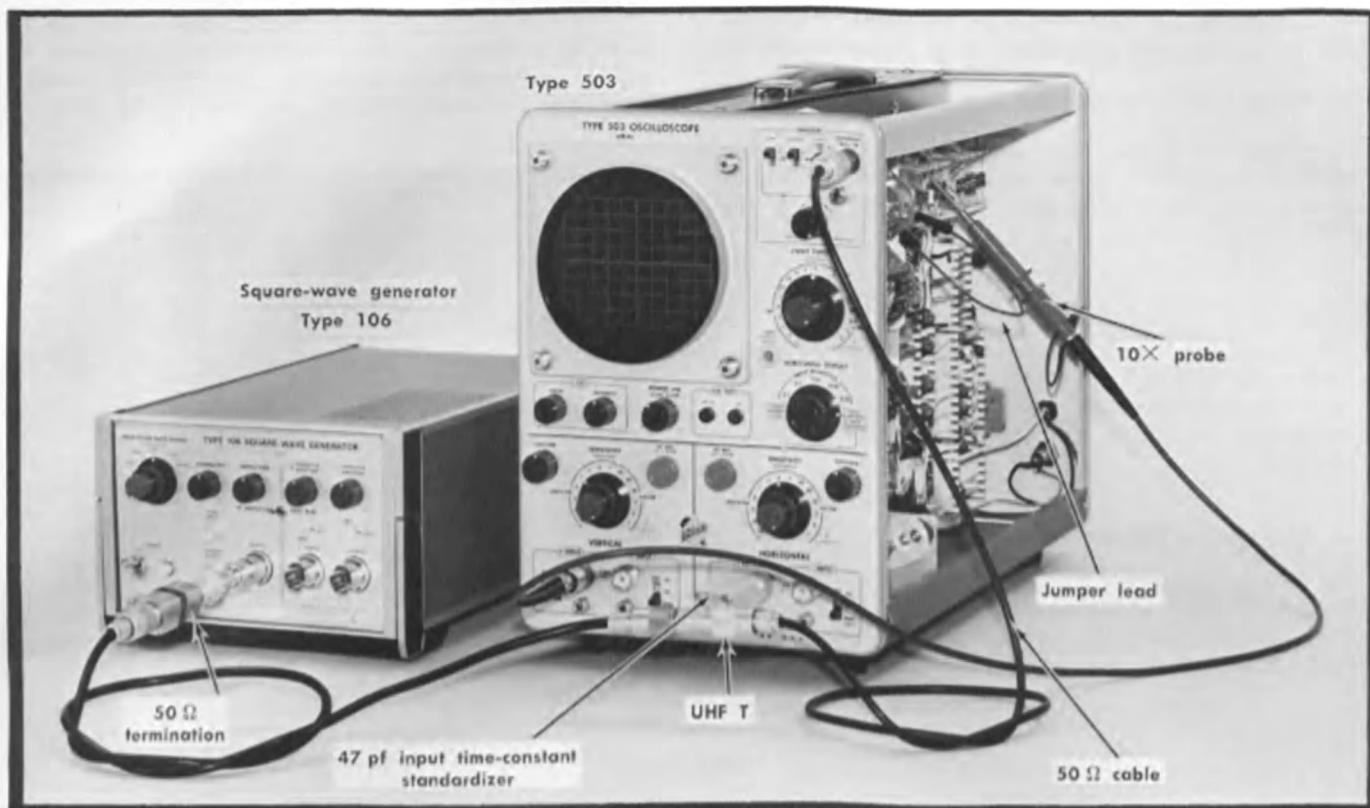

Fig. 6-19. Test setup for Horizontal Amplifier attenuator compensation adjustments.
- Test setup is shown in Fig. 6-19.